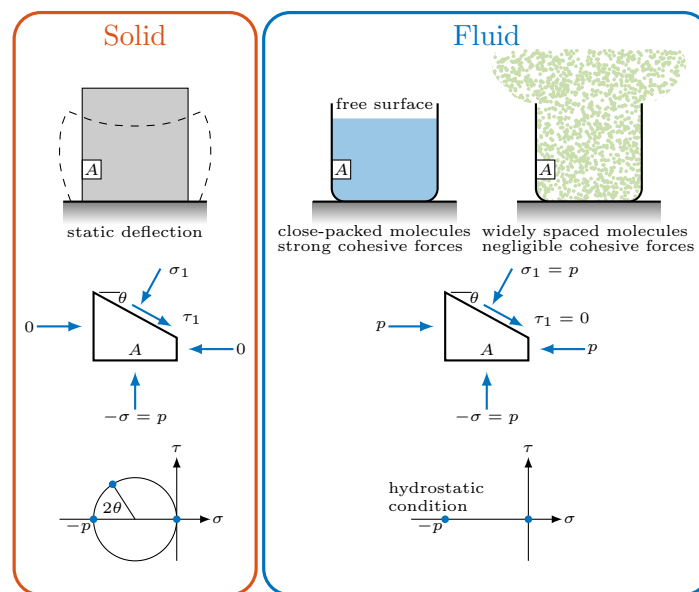

Figure 1.1: Fluid versus solid
- 1.1 Explain how a fluid differs from a solid (see Fig. 1.1). How does a fluid element and solid element react under the presence of shear forces?